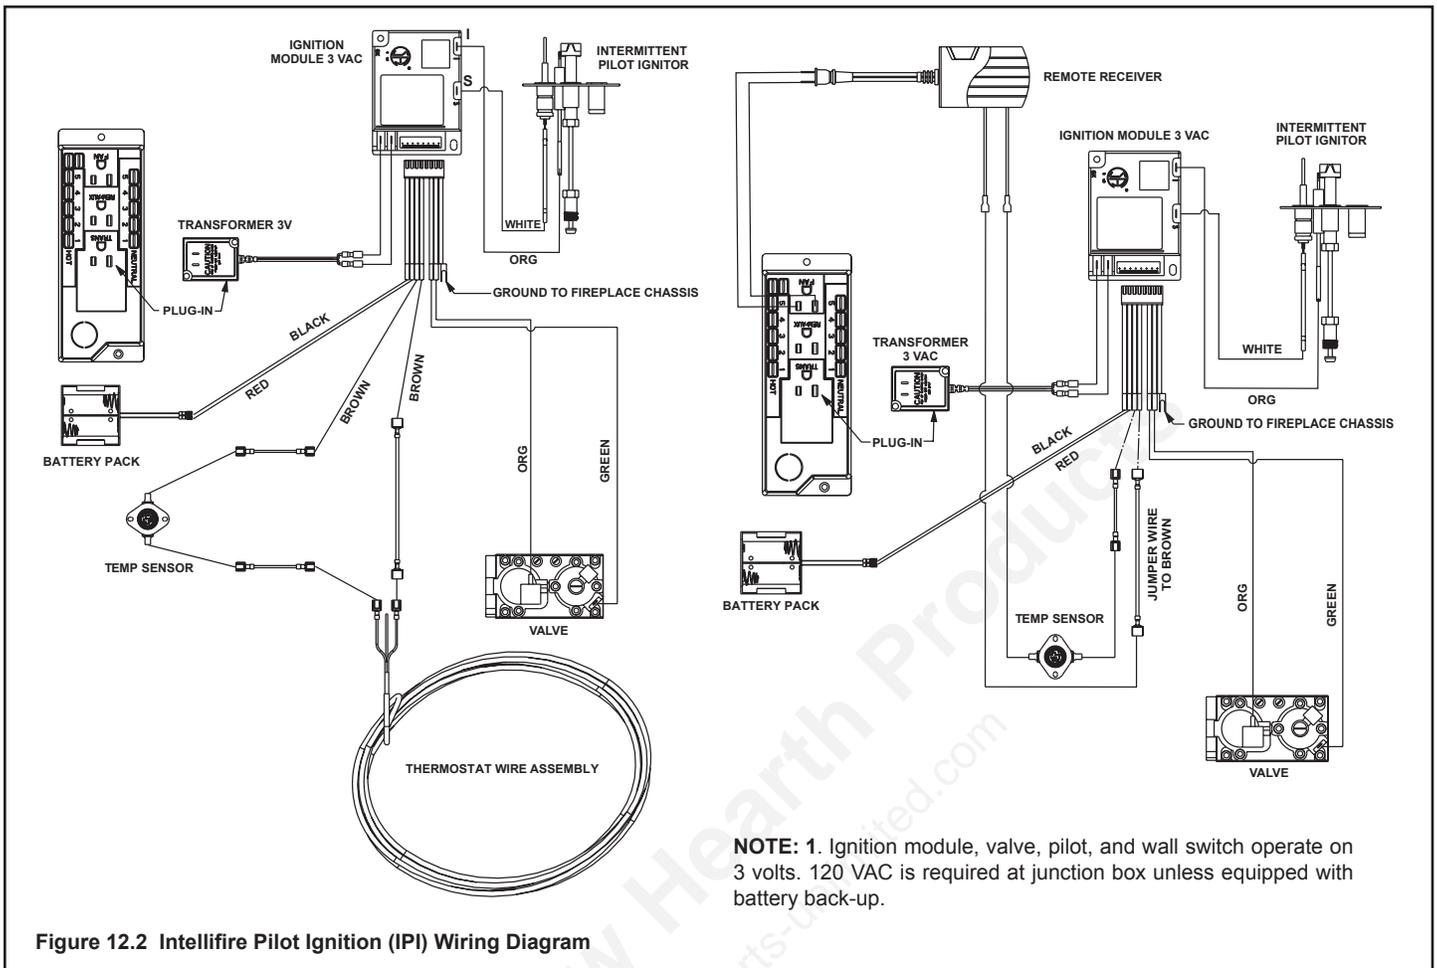

Figure 12.2 Intellifire Pilot Ignition (IPI) Wiring Diagram
- Refer to Figure 12.2, Intellifire Pilot Ignition (IPI) Wiring Diagram.